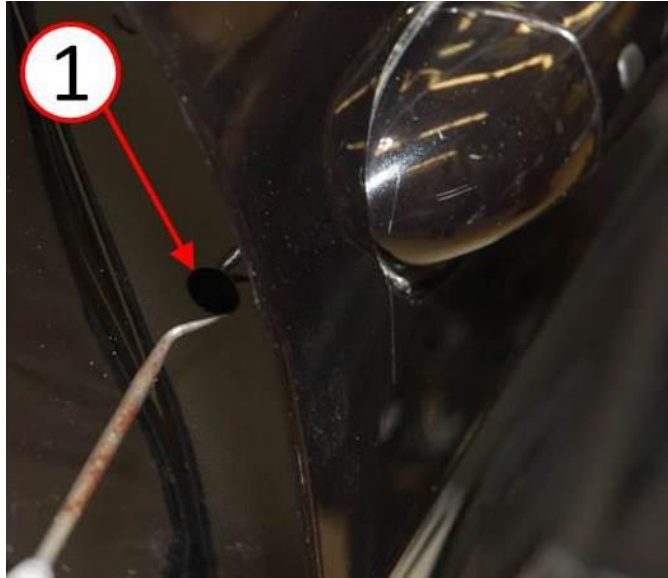

Fig. 12 Insert Pick Tool Into Access Hole
14. Insert a right angled pick or equivalent tool into the access hole (Fig. 12).